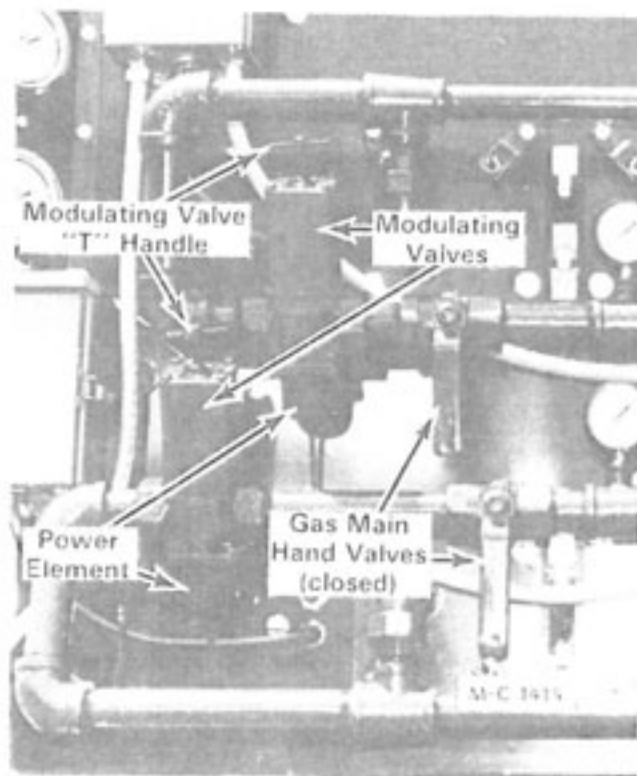

Figure 9 - Two Burner Controls
5. Open the gas main hand valve ¼ of the way. See Figure 9. Flip bottom burner #1 ignition switch ON. After a ten (10) second delay the gas valve light will be ON and the burner will light.